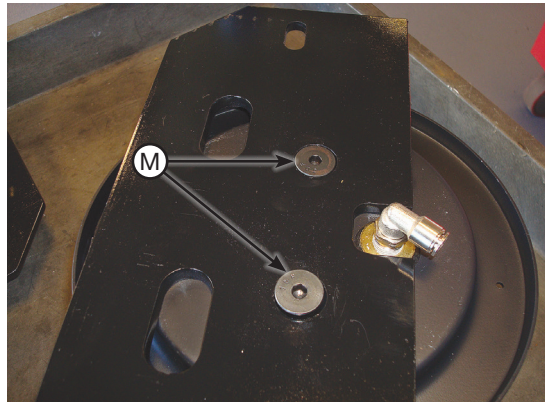

fig. C.6
2. Install the upper air spring brackets (C) onto the air spring assemblies with the 3/8"-24 x 7/8" flat-head cap screws (M) (Fig. C.6) and torque to no more than 20 lb.-ft. (27Nm).